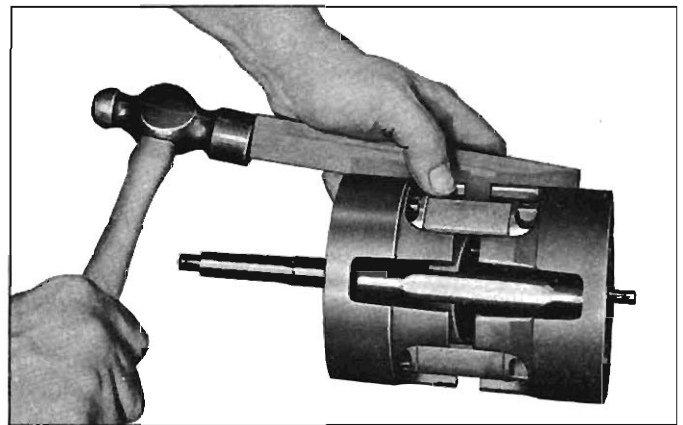

Fig. 11-48—Separating Cylinder Halves
3. Drive the cylinder halves apart and free from the dowel pins and discharge crossover tube using a fiber block and mallet (fig. 11-48). Discard the discharge crossover tube.